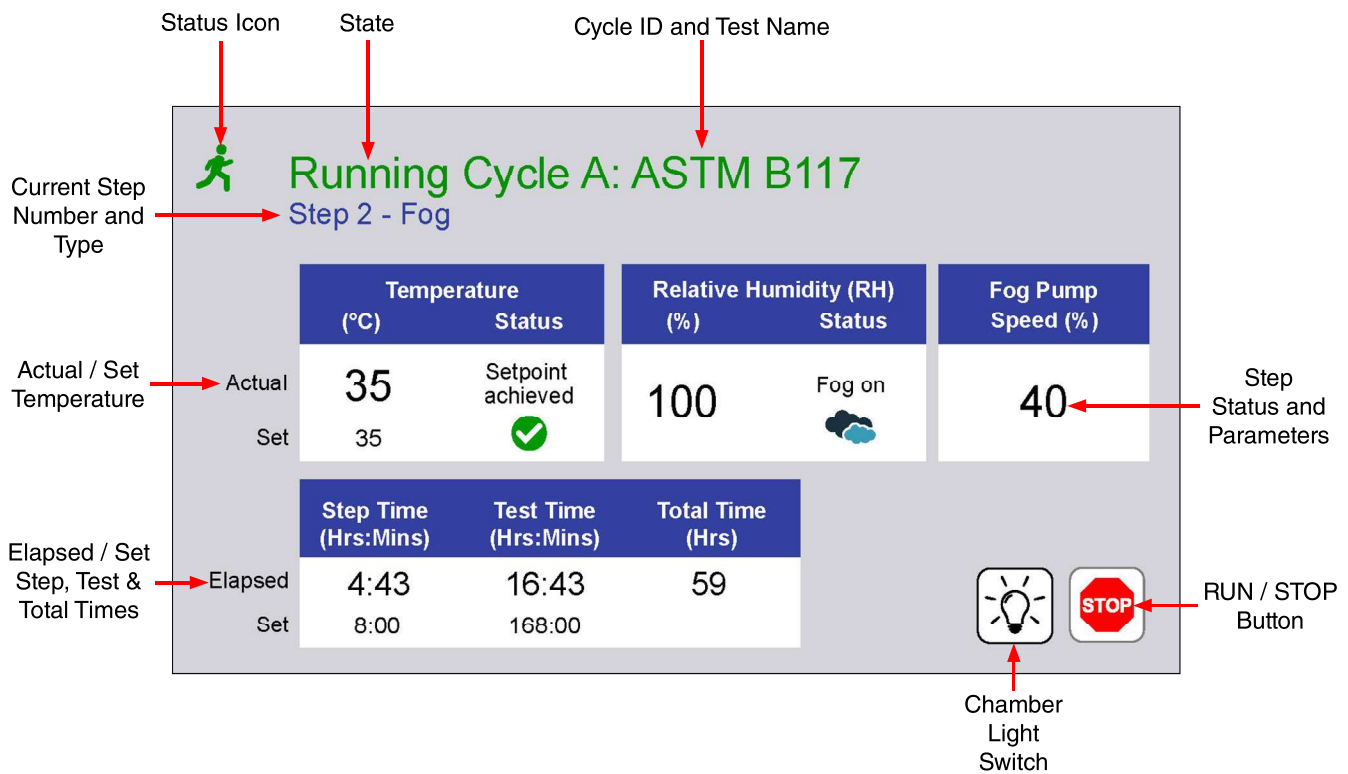
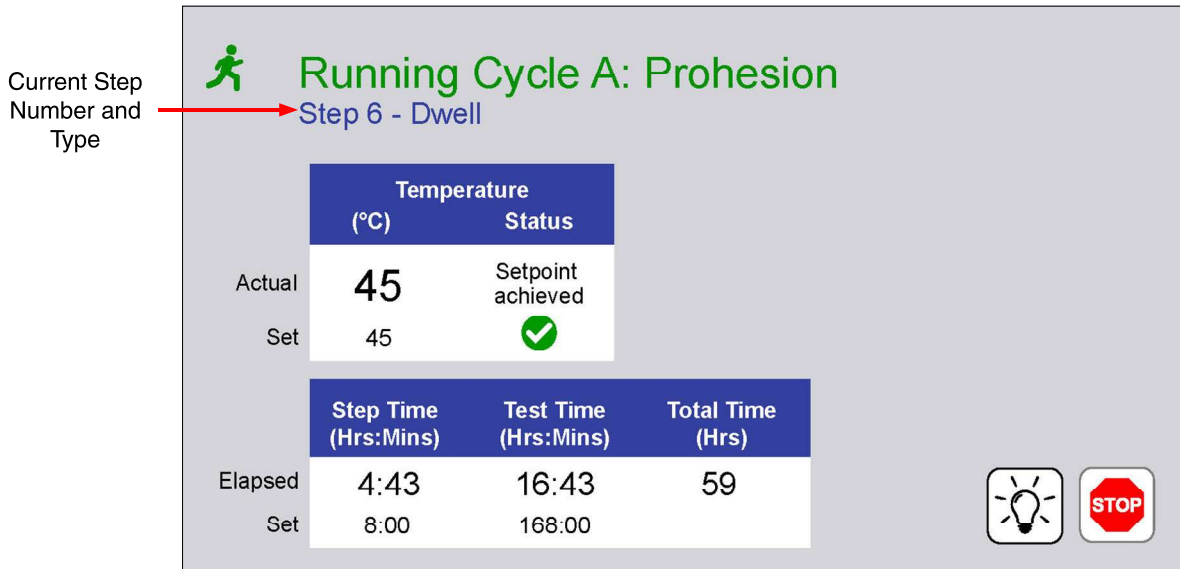

Figure 9.2a: Status Screen display during a fog step.
Figure 9.2e: Status Screen display during a dwell step.
- The Status Screen examples (Figure 9.2a through Figure 9.2e) display: